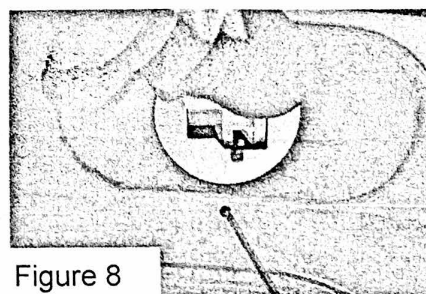

Figure 8
Step 15- Open the lid and remove the original lid lock striker. For metal lid remove two Phillips head screws. Glass lid, using a small screwdriver or paper clip, push in on the locking tab and twist the lid lock striker to remove. See figure 8 and 9.